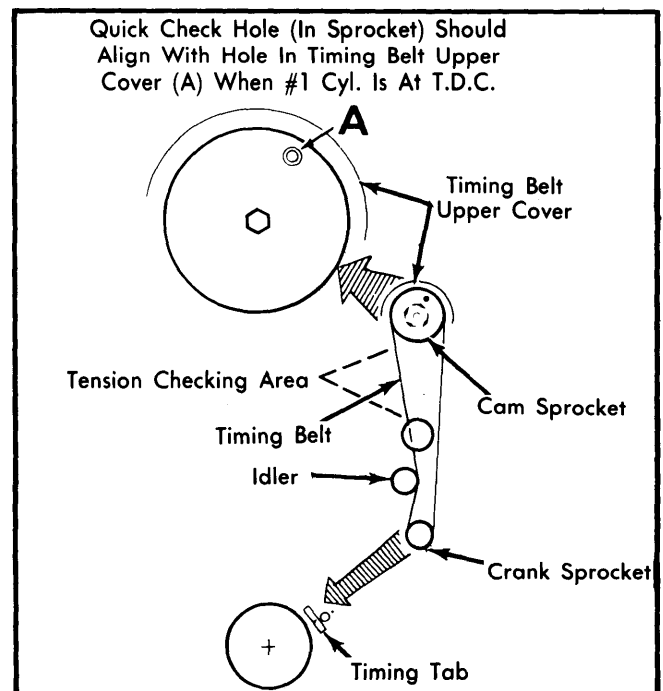

Fig. 5 Sprocket Timing Marks
2) Insert 1/8" drill rod through hole in rear side of upper timing belt cover and camshaft drive sprocket. See Fig. 5.